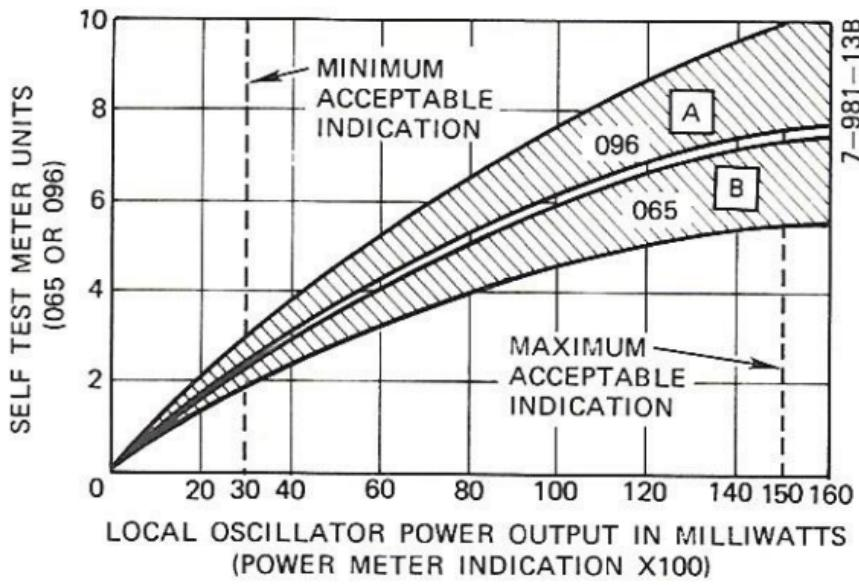

Figure 3-8. Crystal Current Adjustment
3. 096 3A - 841 MAN SLOW - adjust 841 FREQ SET = 096 max indication (see fig. 3-8)
11. 096 1A - S452 1 XTAL CUR NO. 1 - adjust AT452 = Record M451 indication (see fig. 3-8)